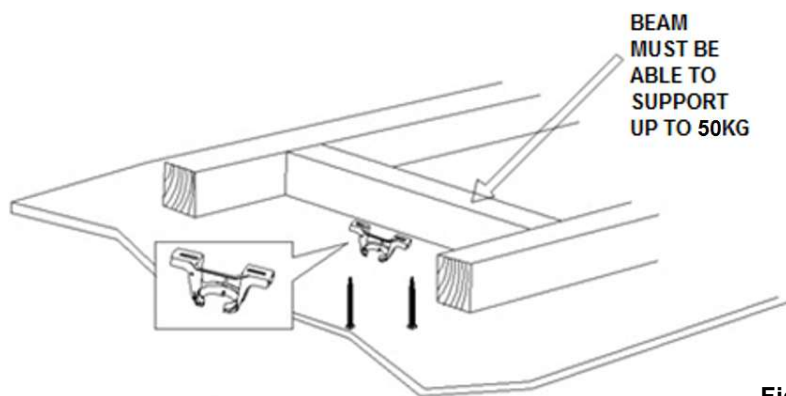

Fig. 2
- Install the hanging bracket to the ceiling joist or structure that is capable of carrying a load of at least 50kg, with two long screws provided. Ensure at least 30mm of the screw is threaded into the support. (Fig. 2)